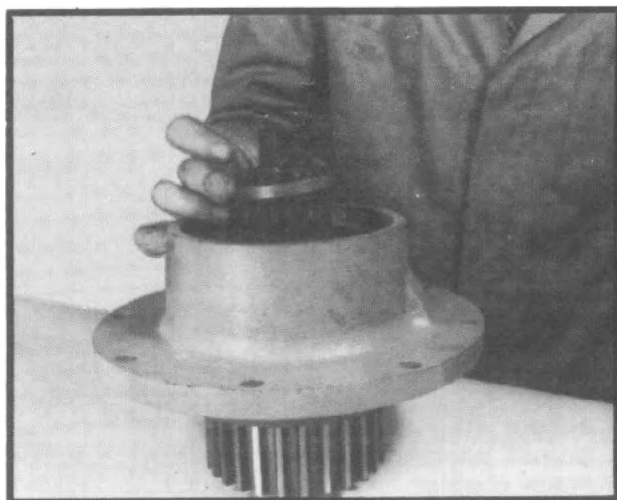

Fig. 187
21. Place end play spacer through front of PTO/declutch carrier and on top on inner roller bearing. (See fig. 187.)